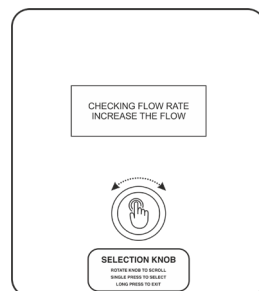

Fig. No. 27.3
- **FLOW CHECK** (Ref. Fig. No. 27.3)